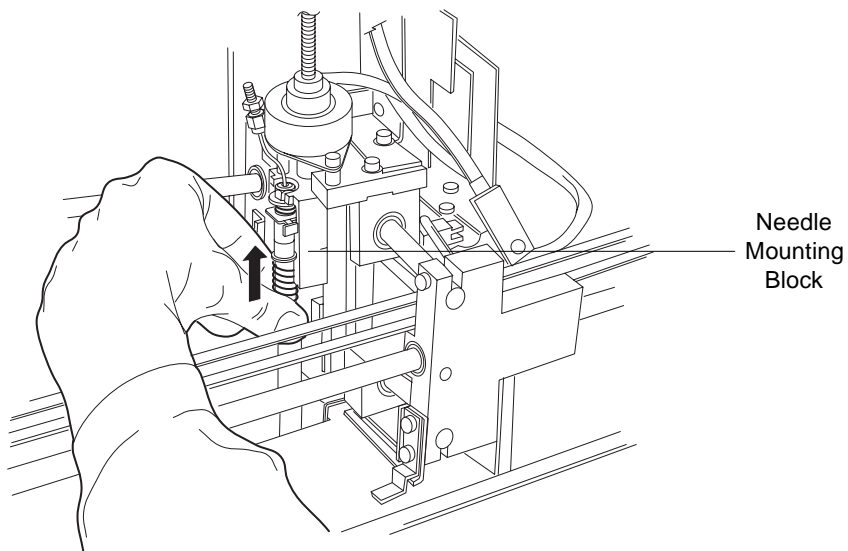

Figure 7-18 Inserting the New Needle into the Needle-Mounting Block
3. Move the replacement needle up slightly, then into the recess in the needle mounting block (Figure 7-18).